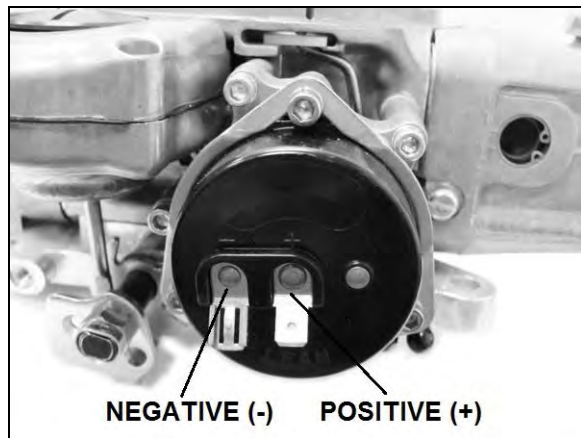

Figure 21
1. Run a wire from a switched +12V source to the connection on the pod cover marked with a (+). Run a second wire from the terminal marked (-) to a good ground. See Fig. 21.